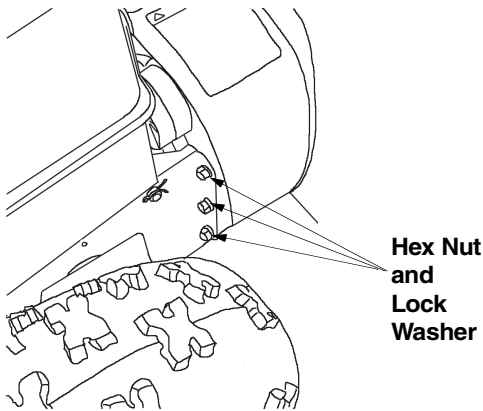

Figure 16
- Remove the three hex nuts and lock washers which attach the auger housing assembly to the frame assembly on each side. See Figure 16.
- From the frame assembly side, insert six lock washers and hex nuts on to the studs. Refer to Figure 16. These pieces of hardware were removed earlier. Tighten nuts securely.